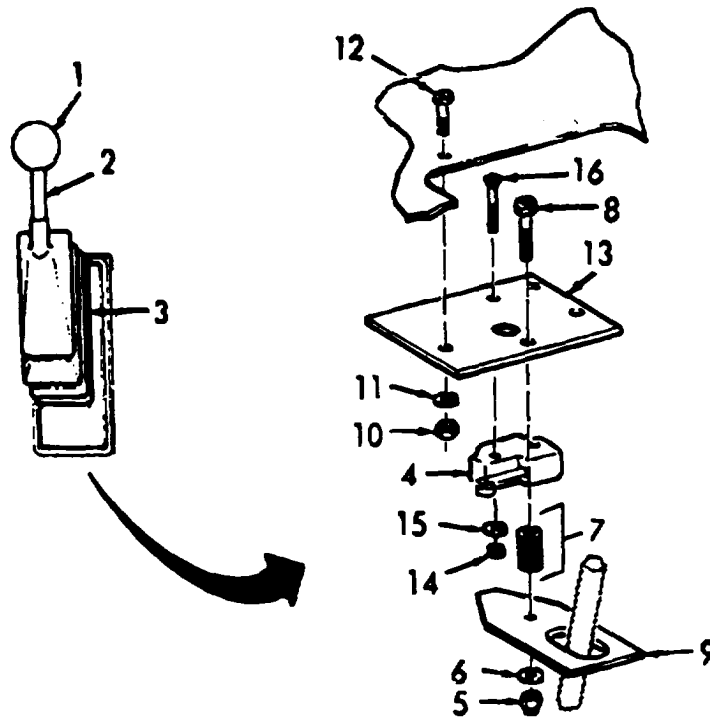

Figure 5-13. Transfer Case Neutral Switch, Removal/Installation.
- a. **Removal.** (Refer to figure 5-13).
- (1) Refer to paragraph 5-7c for inspection of the governor wiring harness.
- (2) Inspect attaching hardware and metal parts for cracks, rust, corrosion, stripped threads, and other obvious damage.
- (3) Inspect transfer case neutral switch for smooth lever action, broken or corroded terminals, and other obvious damage.
**e. Installation.** (Refer to figure 5-13.)
- (1) Install transfer case neutral switch (4) onto switch bracket (13) and secure with two machine screws (16), two flat washers (15), and two hexagon nuts (14).
- (2) Install switch bracket (13) to the underside of the cab floor and secure with two machine bolts (12), two flat washers (11), and two hexagon nuts (10).
- (3) Slide switch lever (9) down over transfer case gearshift and rotate it so that it will mate with transfer case neutral switch (4).
- (4) Secure switch lever (9) to switch bracket (13) with cap screw (8), five flat washers (7), flat washer (6), and self-locking nut (5).
- (5) Connect governor wiring harness wire run 20 terminal to transfer case neutral switch (4) terminal C. Connect governor wiring harness wire run 22 terminal to transfer case neutral switch (4) terminal NO. Connect governor wiring harness wire run 24 terminal to transfer case neutral switch (4) terminal C. Connect governor wiring harness wire run 25 terminal to transfer case neutral switch (4) terminal NO. Remove and discard tags.
- (6) Install boot (3) over transfer case. Install knob (1) on top of transfer case gearshift lever (2).